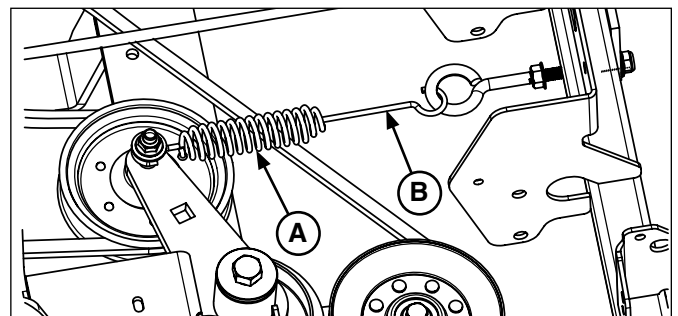

Figure 2. New Style Drive Tensioning Spring (No Action Required)
- If the spring (**A**, **Figure 2**) has a long forward hook (**B**), no action is necessary.